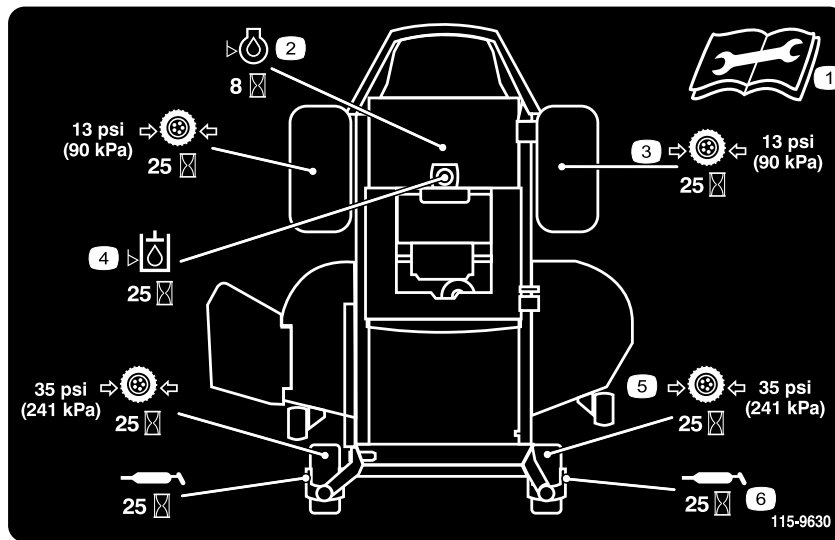

Figure 33
4. Connect a grease gun to each fitting (Figure 34 and Figure 33). Pump grease into the fittings until grease begins to ooze out of the bearings.